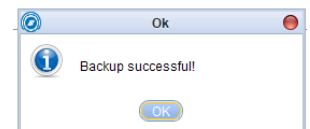

Fig. 19: Backup Successful Message.
3. Select the local folder that you created in Step #1 and click “Open” to save the backup to the folder. You will receive a “Backup Successful” message as shown in Fig 19.